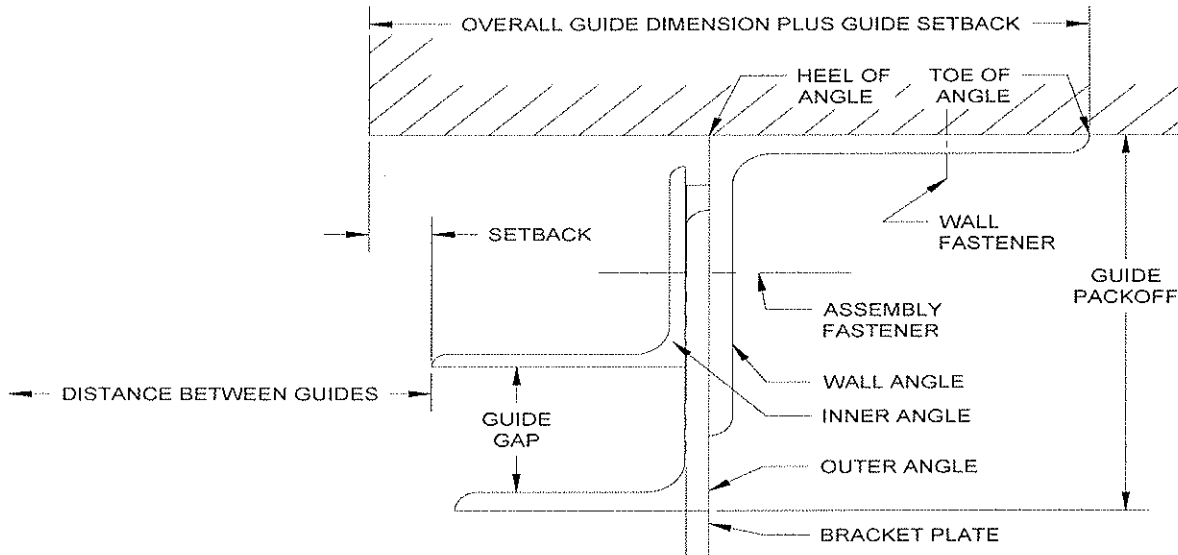

Figure 5.1 – Face of Wall “Z” Guide
▪ Face of Wall Units (Figures 5.1 - 5.5):
3. Measure the distance from the opening/jamb to the heel of the wall angle (on "E" guides) or the toe of the wall angle (on "Z" guides). This distance is referred to as the "*Overall Guide Dimension plus Guide Setback*"; see **Figures 5.1 - 5.5**. See the job construction drawings for the dimensions.